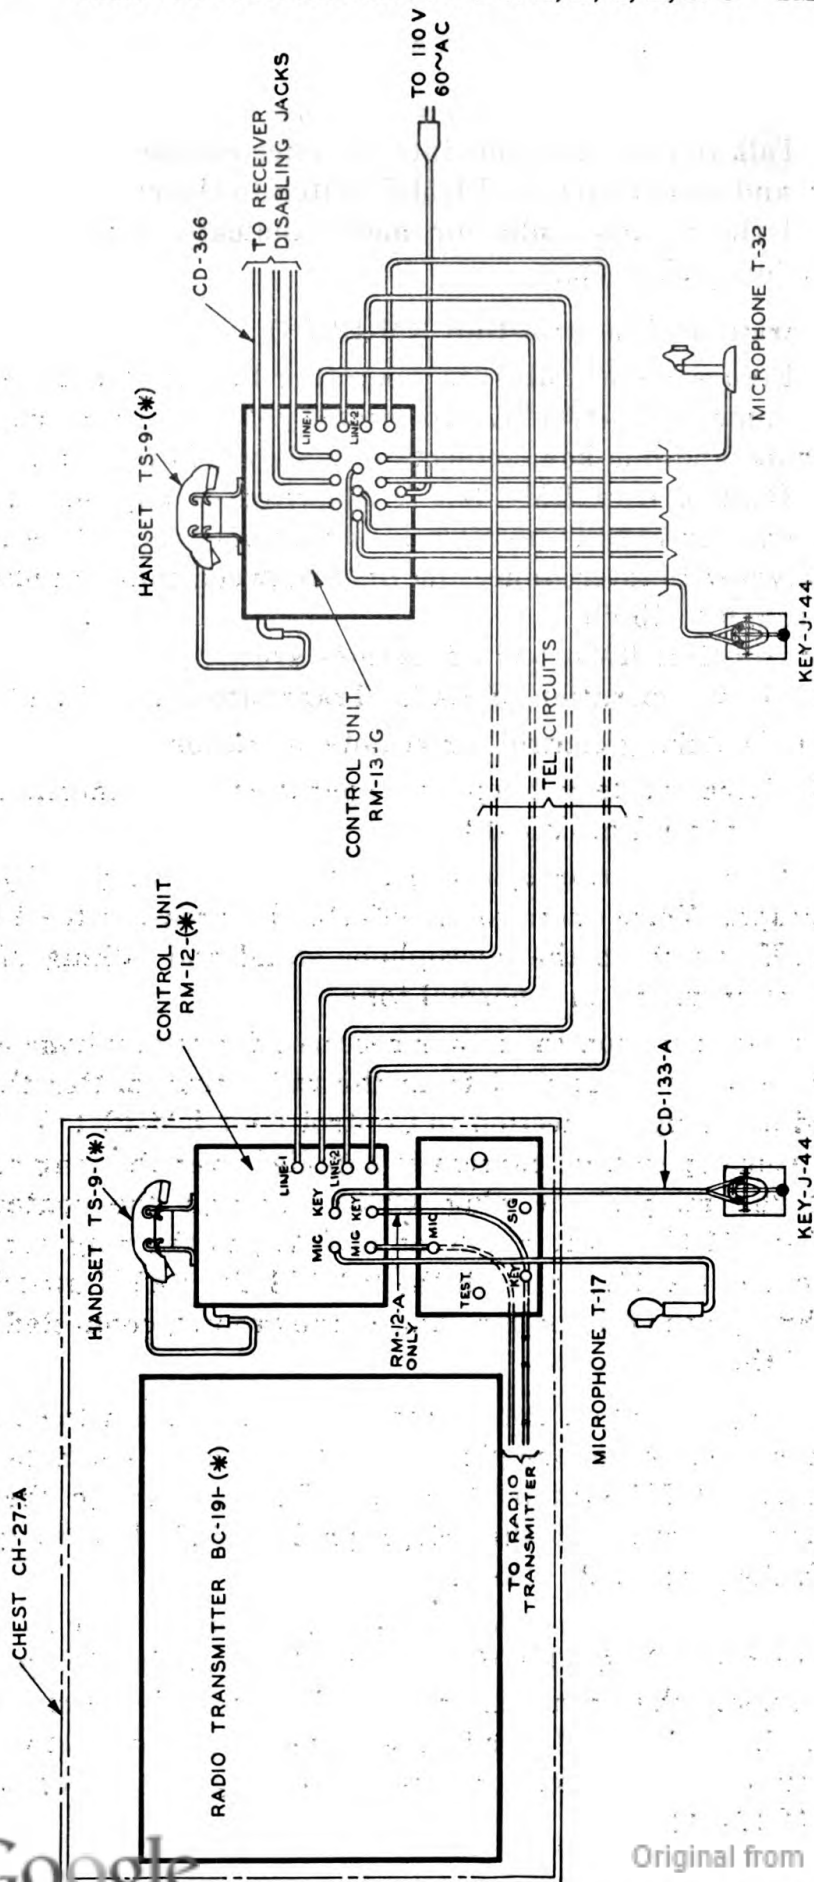

Fig. 9—Remote Control Equipment RC-47(*)—Operating Layout
a. Figure 9 illustrates the operating layout of Remote Control Equipment RC-47-(*). To simplify the diagram only one microphone and one key connection is shown in connection with Remote Control Unit RM-13-(*). Selection of any one of three microphones or keys is possible in actual operation. The loss in the two two-wire interconnecting lines between control units may range from 0 to 15 db.